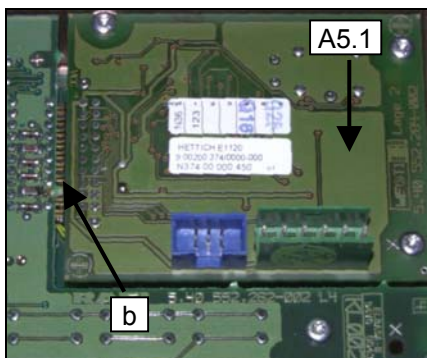

Fig. 26
- Plug the serial interface board (Fig. 26, A5.1) in the 20-pole connector (Fig. 26, b).
- Fix the serial interface board (Fig. 26, A5.1) with the three connecting screws.